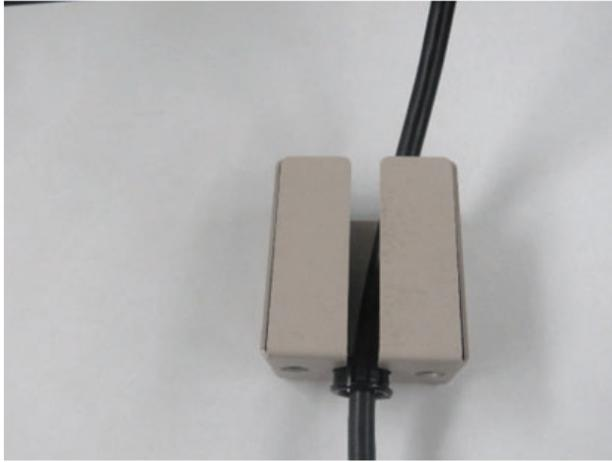

FIGURE 13
4.1.5. Push the Power Cord into the slot on the Cover. (See Figure 13)
4.1.6. Press the Grommet into the hole in the Cover. (See Figure 13)